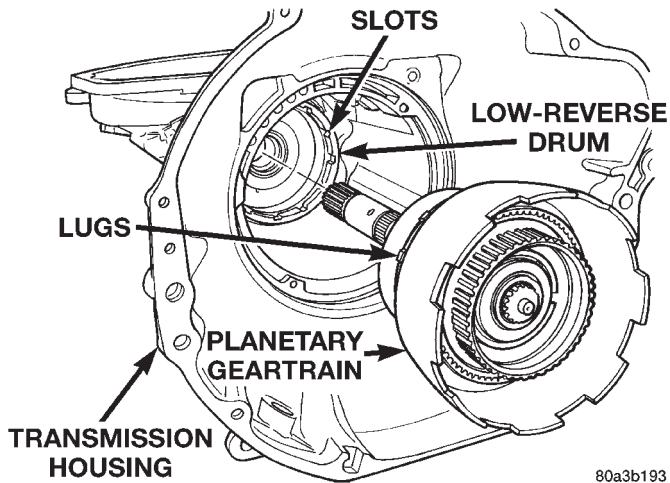

Fig. 99 Output Shaft And Planetary Geartrain
(23) Lubricate output shaft, rear support bore and low-reverse drum hub with transmission fluid.
(24) Install assembled output shaft and planetary geartrain in case (Fig. 99).
(25) Align drive lugs on rear planetary gear with slots in low-reverse drum (Fig. 99). Then seat planetary assembly in drum.
(26) Install governor on output shaft.